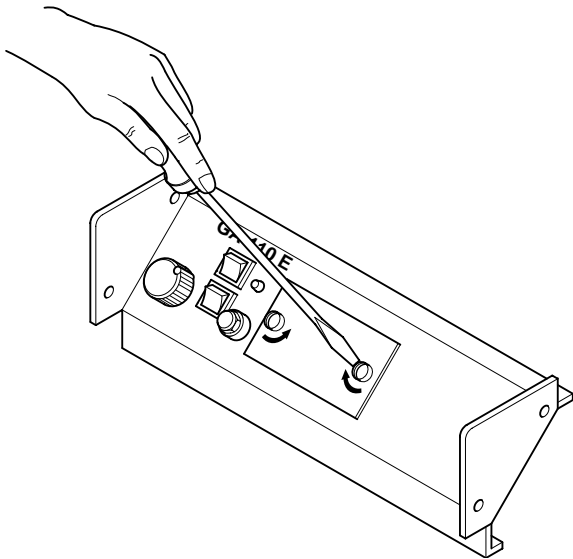

Fig. 4 Unlatching of the blind stop
- Remove the blind stop from the boiler control panel. The blind stop is to be unlatched by means of a screwdriver (see Fig. 4).